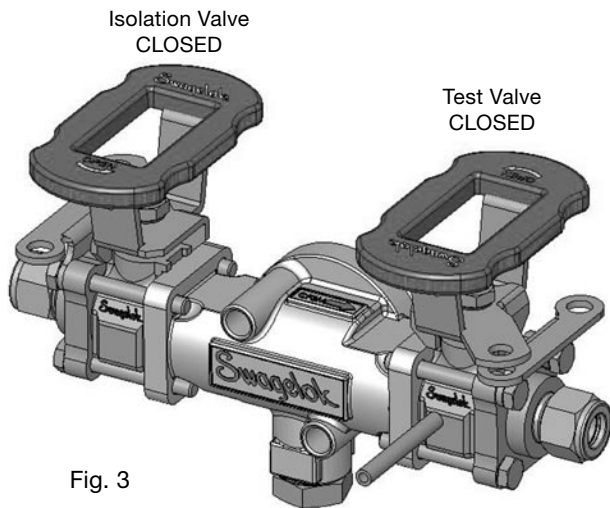

Fig. 3
3. Close test valve. See Fig 3.